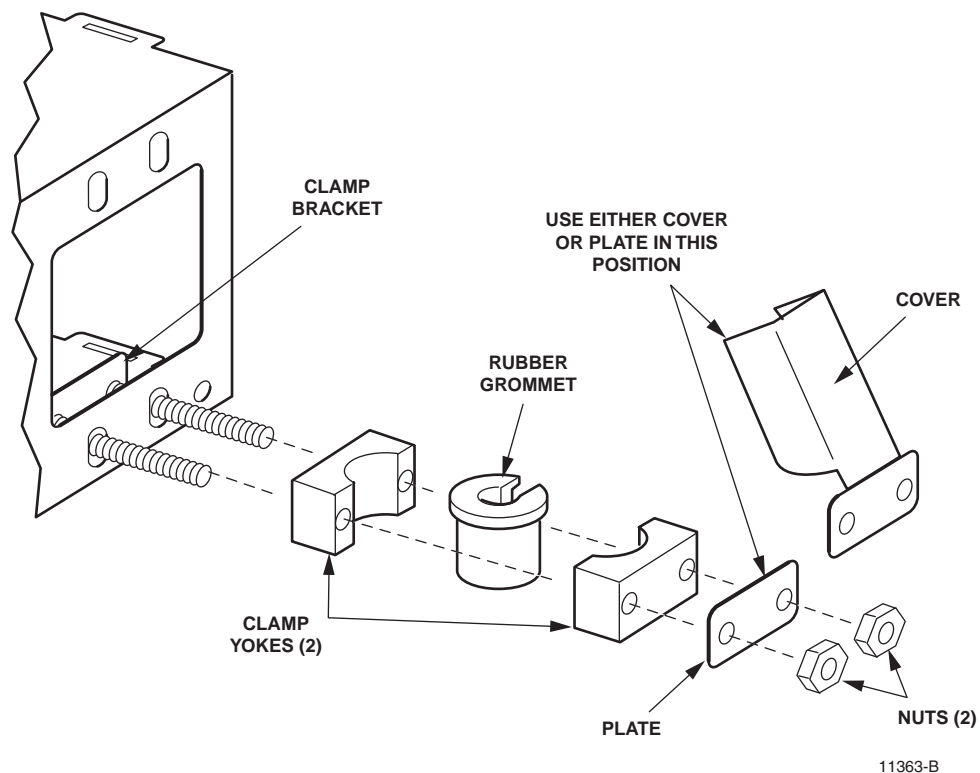

Figure 8. Installing a Cable Clamp on a Rack-Mount Panel (Select from Four Mounting Locations)
2. Secure the cable as follows (see Figure 8):
4. Secure the cable with a cable clamp in the position shown, about 0.75 inches (1.91 cm) before the breakout point. For instructions refer to Figure 8 in the previous procedure.